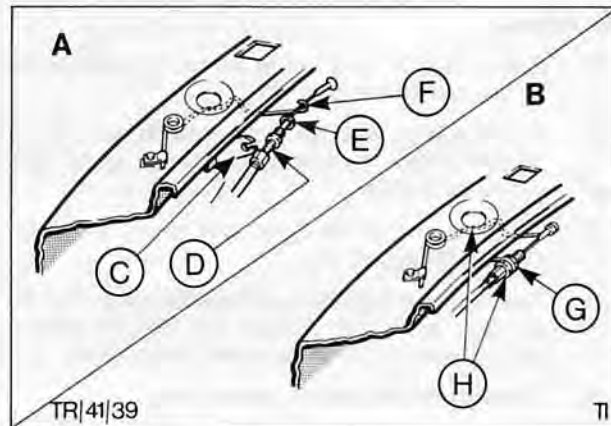

Fig. 5. Release cable to spring
8. Hold outer cable and pull inner cable into spring loop to engage nipple. Insert inner cable into slotted hole in bracket. Release hold on outer cable to locate cable adjuster in slotted hole in bracket, Fig. 5.